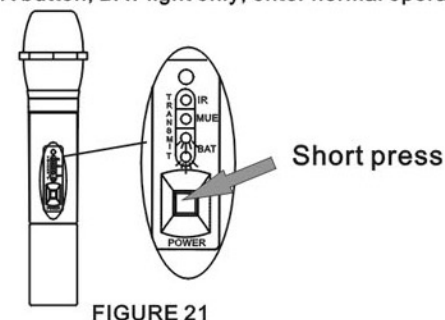

FIGURE 21
- 3.Short press(1 second) POWER button, BAT light only; enter normal operation (Figure 21).